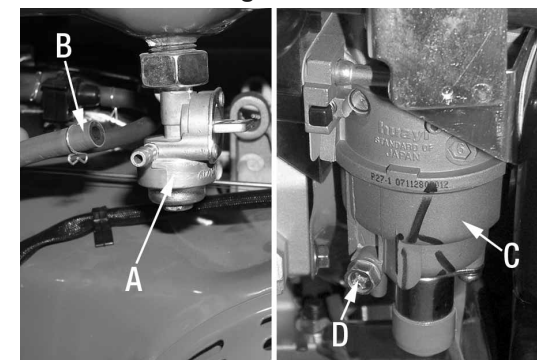

Figure 17
- 3) Turn fuel shut-off valve (A) Fig.17 to the "OFF" position.
- 4) Disconnect the fuel hose (B) from the fuel shut-off valve.
- 5) Turn fuel shut-off valve to the "ON" position and drain fuel from tank. Pivot the fuel shut-off valve outwards to simplify the task as shown in Fig.17.
- 6) Remove drain hex. bolt (D) from the carburetor (C) and drain the rest of the fuel found inside the carburetor and hose.